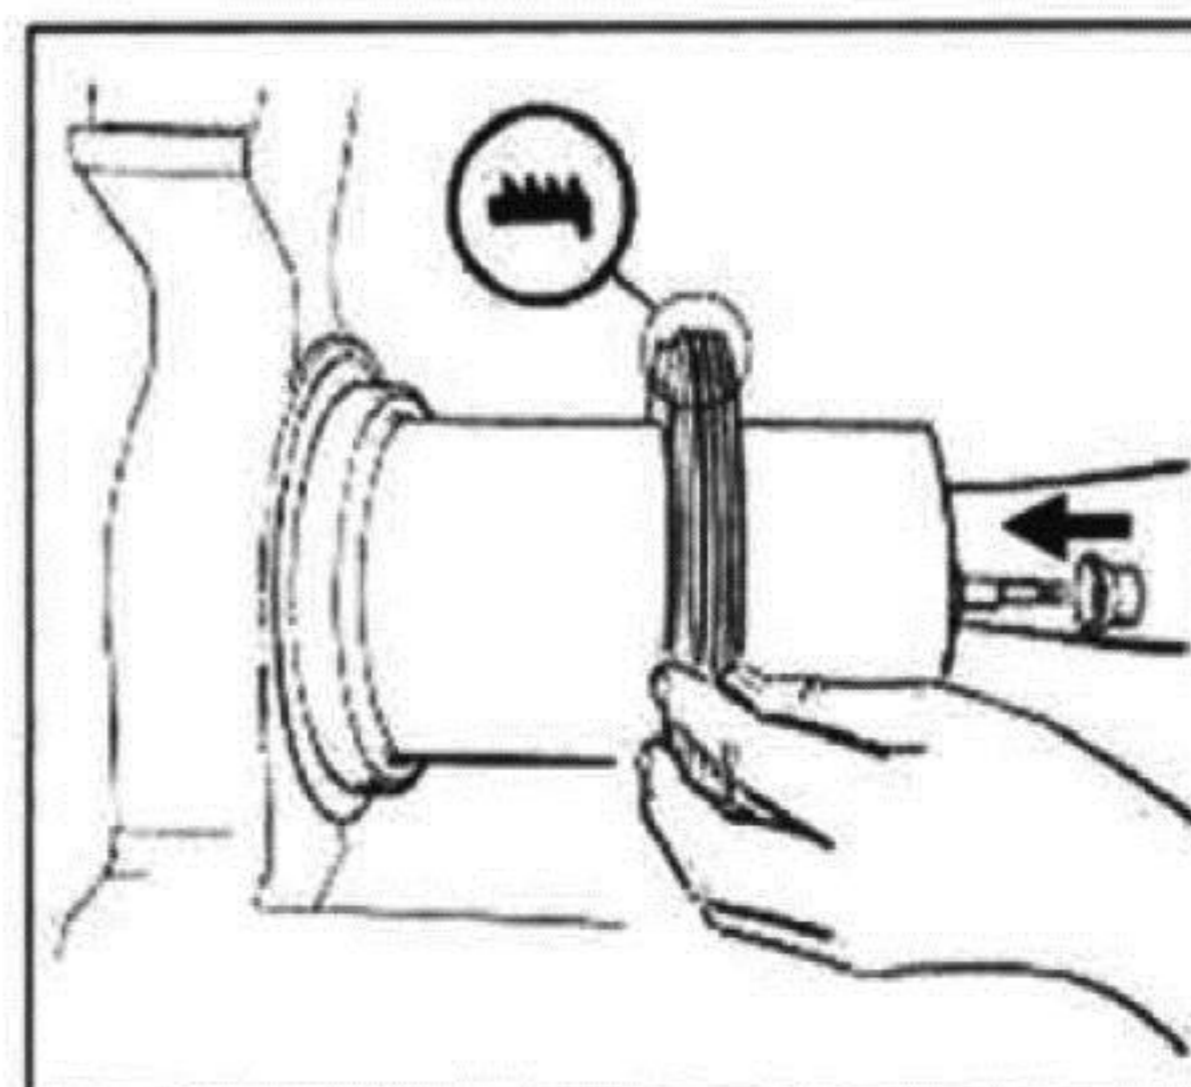

fig.35
- Reassemble the rear gasket and the bell shaped one, respecting the correct direction as indicated in figure 35.